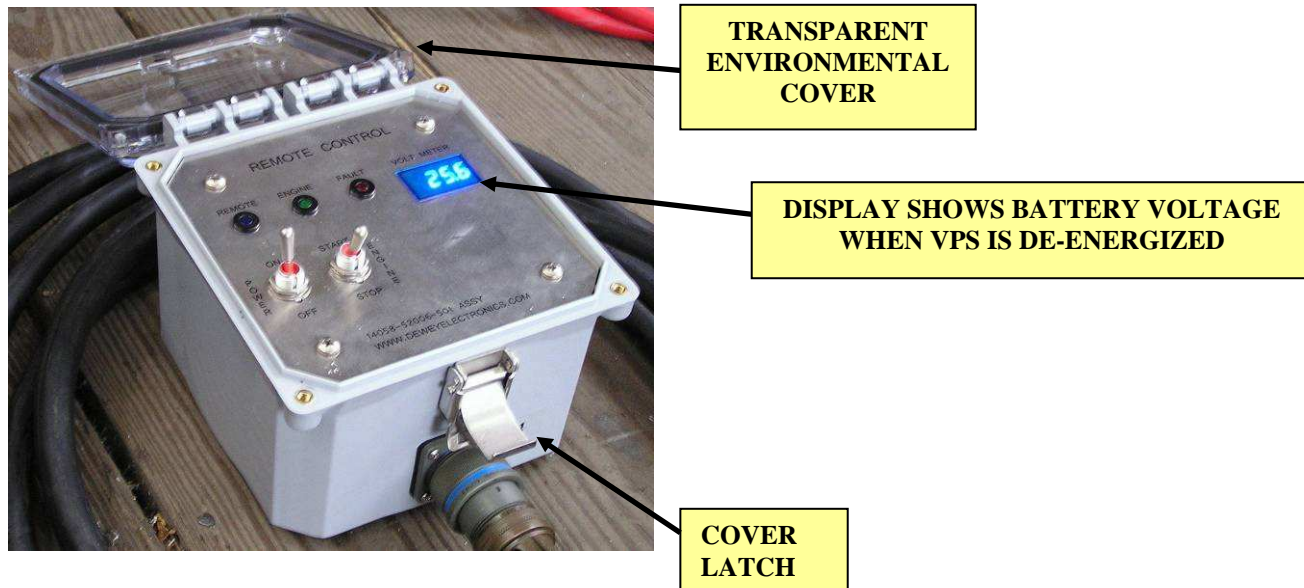
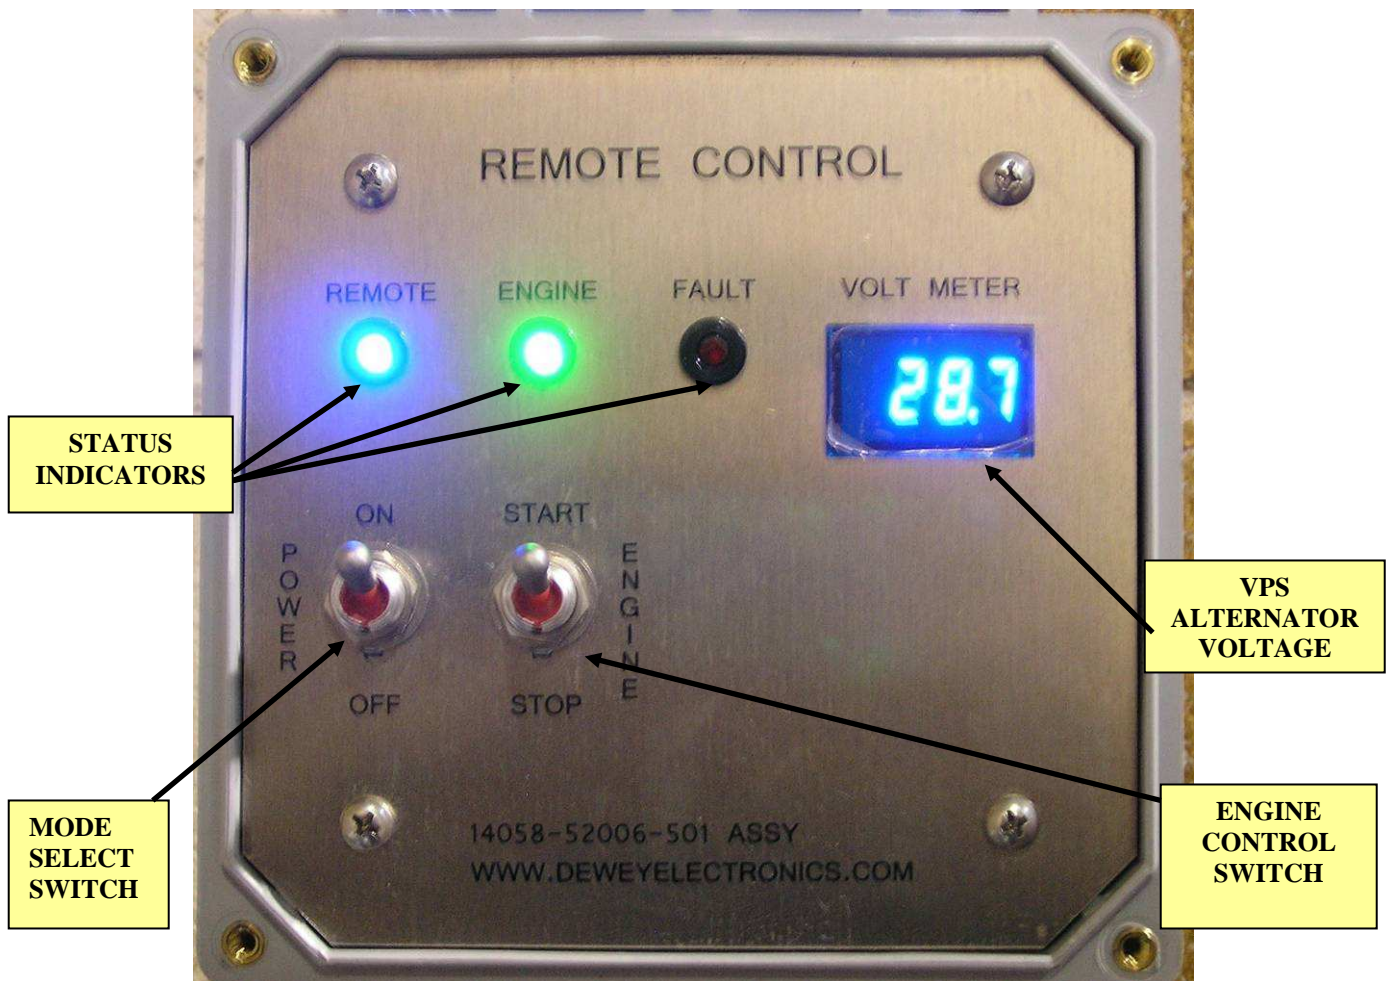
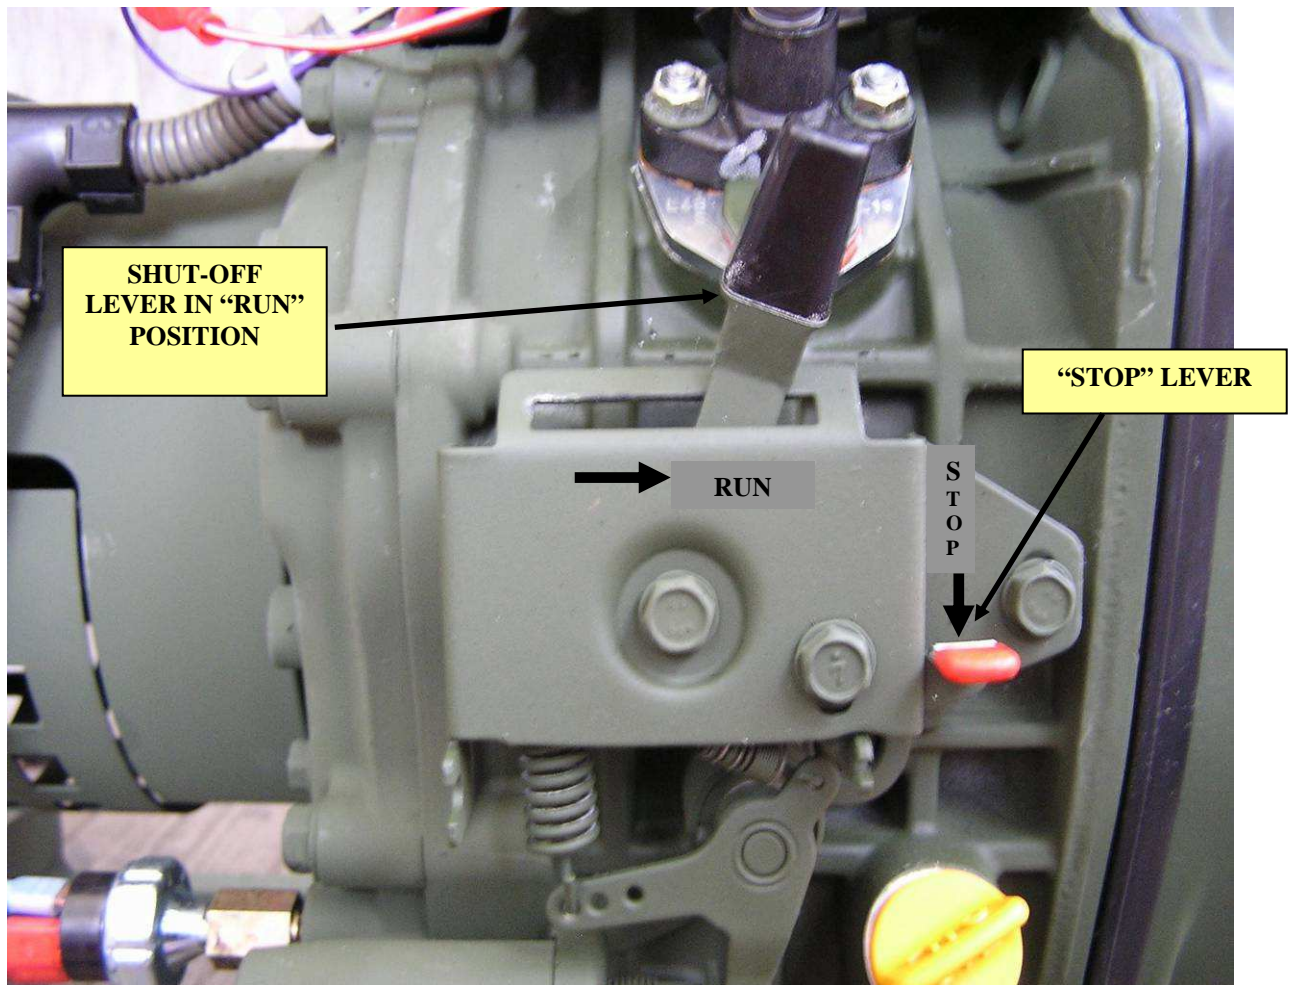

FIGURE 3 – VPS REMOTE CONTROL BOX
FIGURE 4
FIGURE 8
To operate the Remote Control Box, the cover must be opened by loosening the Cover latch (**Figure 3**)
The Controls of the Remote Control Box are shown in detail in **Figure 4**.
CAUTION: Before connecting the electrical output from the VPS to a bank of 24 VDC batteries, as intermediate buffer to the power consumption device, make sure the “LOC” “OFF” “REM” switch on the Engine Controller (**Figure 3**) is in “OFF” position and the Power Switch in Remote Control Box (**Figure 4**) is in “OFF” position and engine “START” “STOP” switch is in “STOP” position.
2. Verify that the Engine Manual Shut-Off Lever is set to the “RUN” position. **Figure 8** shows the position of the Shut-Off Lever for starting and operating mode. The VPS ships with the Shut-Off Lever already set in proper position.
1. The voltmeter on the Remote Control box (**Figure 3**) can be used to monitor the connection and health of the external 24V Battery prior to starting the VPS. To use this feature, set the Mode Select Switch (Power switch) (**Figure 3**) to the "ON" position and the voltmeter will display the battery voltage. After the VPS starts, the Voltmeter will display the VPS output Voltage.
The Amber "LOC" indicator will light confirming the Local mode selection. The Fuel Pump will start the priming cycle for approximately 5-10 seconds. The engine will start automatically. If the engine fails to start on the first attempt, a second and third attempt will be made automatically. If the engine fails to start after the third attempt, the red Fault light will illuminate. To clear the Fault, turn the Mode Switch to the OFF position. Repeat the starting sequence again. If the engine still fails to start, refer to the Troubleshooting section of this manual for possible solutions. Once the engine starts, the Green "ENG" indicator will turn on and the Voltmeter on the Remote control box (**Figure 4**) will read a voltage dependent on the battery charge state which can range from 24.0 VDC to 29.9 VDC. After a 10 second initialization period, the voltage will begin to ramp up from the battery state to the target voltage of 29.5 VDC.
The Fuel Pump will shut off and engine will stop, and the Green "ENG" indicator lamp on the Generator Controller Box (Figure 2) will turn off. If the engine fails to turn off, depress the Red STOP lever shown in Figure 8. This will manually shutdown the engine.
The Blue “REM” Indicator will light confirming that the Remote control method was selected and VPS control was relegated to the Remote Control Box (**Figure 4**)
On the Remote Control Box (**Figure 4**), set the Mode Select Switch (Power switch) to “ON” position. The BLUE “REMOTE” Indicator will light and the voltmeter will display the battery voltage. Set the ENGINE Switch to “START” position. The Fuel Pump will start the priming cycle for approximately 5-10 seconds. The engine will start automatically. If the engine fails to start on the first attempt, a second and third attempt will be made automatically. If the engine fails to start after the third attempt, the red Fault light will illuminate. To clear the Fault, turn the Mode Switch to the OFF position. Repeat the starting sequence again. If the engine still fails to start, refer to the Troubleshooting section of this manual for possible solutions. Once the engine starts, the Green “ENG” indicator will turn on and the Voltmeter on the Remote control box (**Figure 4**) will read a voltage dependent on the battery charge state which can range from 24.0 VDC to 29.9 VDC. After a 10 second initialization period, the voltage will begin to ramp up from the battery state to the target voltage of 29.5 VDC.
Set the ENGINE Switch on the Remote Control Box (Figure 4) to “STOP” position. The engine will stop and the GREEN “ENGINE” indicator will turn off. If the engine fails to turn off, depress the Red STOP lever shown in Figure 8. This will manually shutdown the engine.